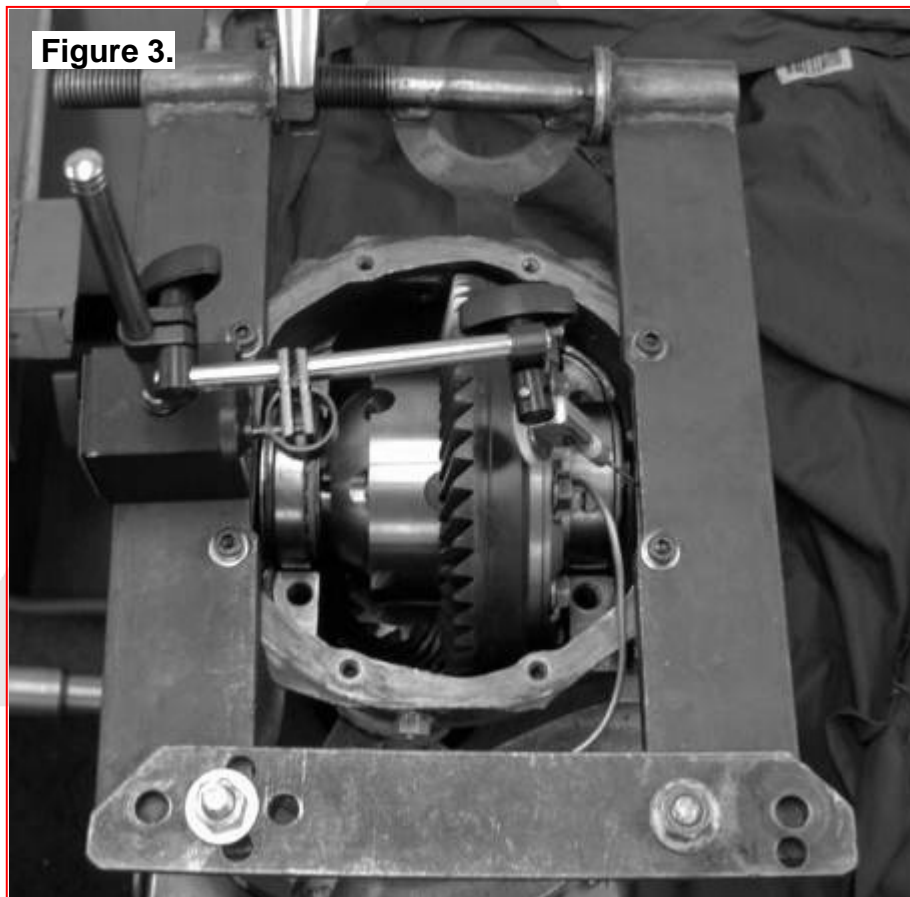

Figure 3.
- ☐ Setup the differential spreader and a dial indicator and carefully spread the differential housing (Fig.3.) just enough to remove the differential carrier (Refer to your vehicle's service manual).